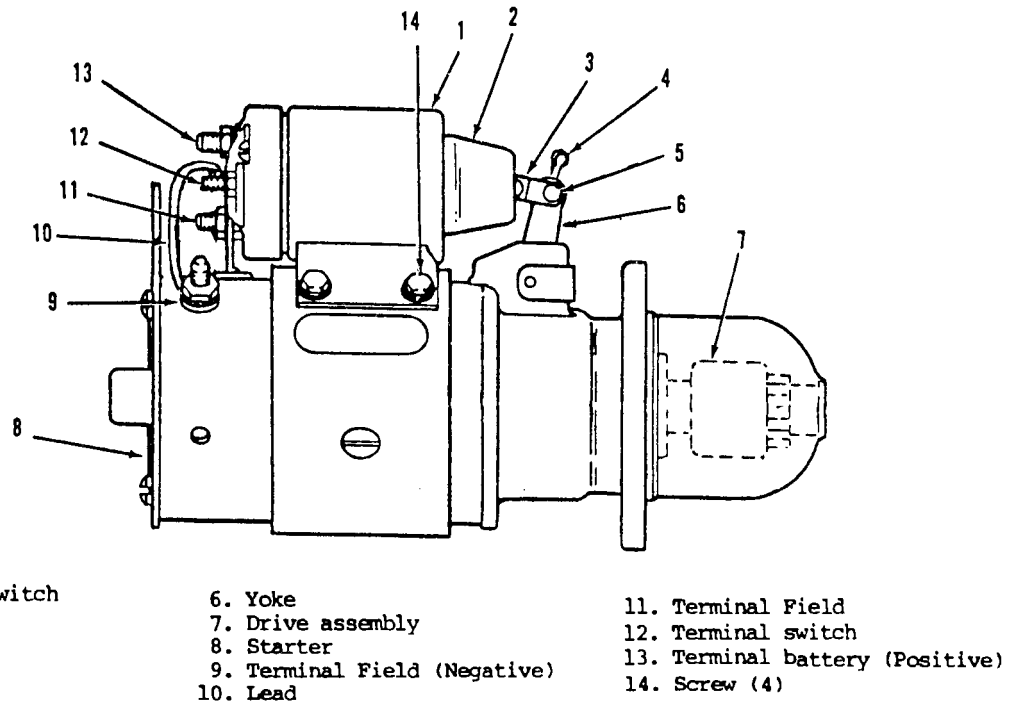

Figure 4-22. Engine Starter Assembly, Style I Starter
(1) Cleaning Starter. Refer to paragraph 3-16a.
(2) Inspecting Solenoid Switch,
(a) Style I Starter. Refer to figure 4-22. Inspect solenoid switch (1) for cracks, dents, or other physical damage. Check to see that the electrical terminals are clean and free of corrosion. Check that the rubber boot (2) on plunger (3), cotter pin (4), clevis pin (5), and yoke (6) are in good condition. Check that plunger (3) and yoke (6) operate freely. Check that solenoid switch (1) is securely fastened to the starter motor (8), with screws (14).
(3) Inspecting Drive Assembly. Refer to figure 4-22 for Style I Starter and figure 4-22A for Style II Starter. Inspect drive gear for cracks or chipped teeth. Check that gear and spring of drive moves freely, and returns to rear position when released.
(4) Inspecting Brushes.
(1) Remove Solenoid. If solenoid is defective, remove as follows: Refer to figure 4-22. Remove nut
(2) Install Solenoid. Refer to figure 4-22. Place solenoid (1) on frame (8) and move to rear until field terminal (11) enters field coil lead strap. Install nut and lockwasher, do not tighten. Install screws (14), do not tighten. Align the plunger (3) on yoke (6) and insert clevis pin (5) and secure with cotter pin (4). Install lead (12) on small solenoid terminal and on negative terminal (9) Secure with nuts and lockwashers. Tighten nut and lockwasher on field terminal (11), and screws (14).